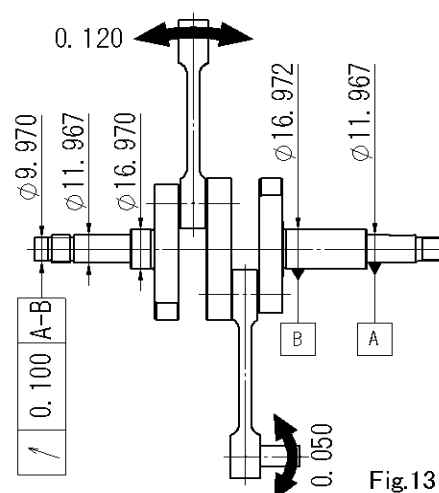

Fig.13
- Measure each diameter of the crankshaft shown in Fig.13 with a micrometer. Replace the crankshaft assembly in case the measured diameter is less than the size shown in Fig.13.
- iii) Check the balancing of the crankshaft using a dial indicator (see Fig.13). If the value is more than 0.100, replace the crankshaft assembly.